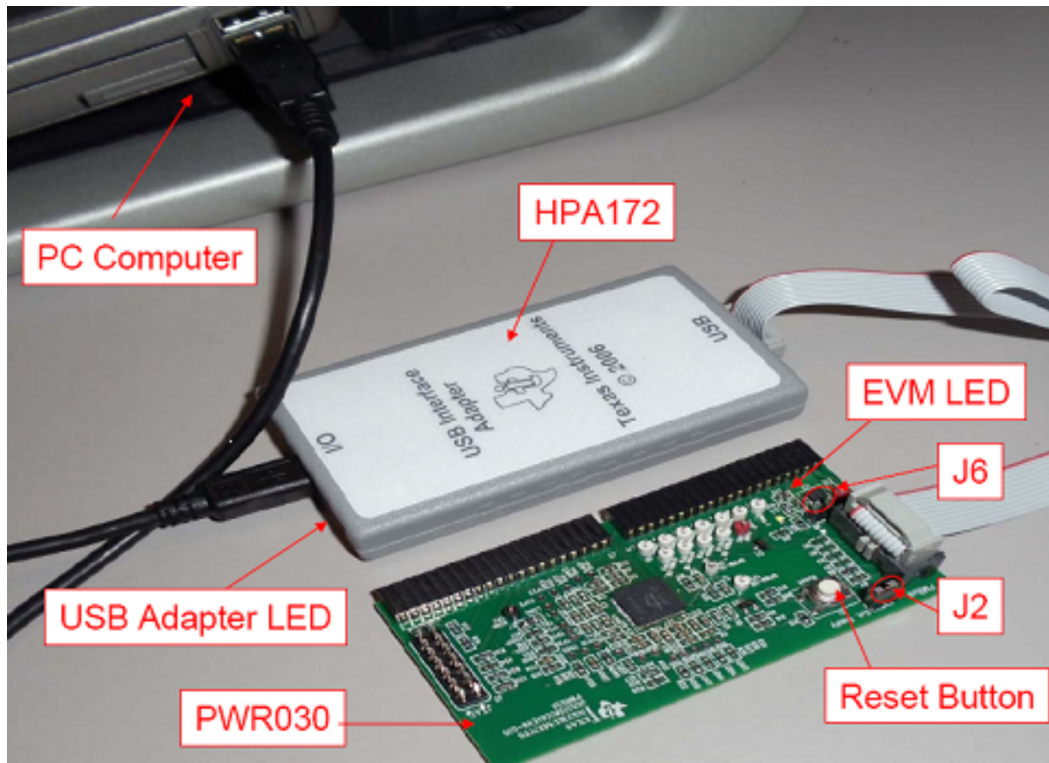

Figure 41. Test Setup
5. Connect the USB-to-GPIO (HPA172) adaptor to the control card as shown in Figure 41, and connect the other end of USB-to-GPIO adapter to the host computer
Connect one end of the ribbon cable to the module, and connect the other end to the USB-to-GPIO (HPA172) interface adapter. Connect the mini connector of the USB cable to the USB interface adapter. Then connect the other end to the USB port on the host computer, as shown in Figure 41.